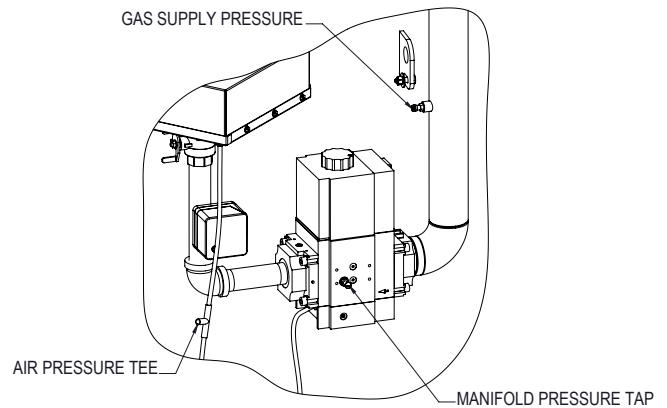

Figure 92. Air Pressure Tee
4. Attach (1) 12" scale manometer on the fan suction pressure hose. Pull black cap from the air pressure tee as shown in **Figure 92** and connect the manometer.
1. Check blower suction using the manometer attached to the air pressure tee as shown in **Figure 92**, with the boiler firing at 100% input. The reading should be as noted in **Table AD** and **Table AF** for both natural and propane gas.